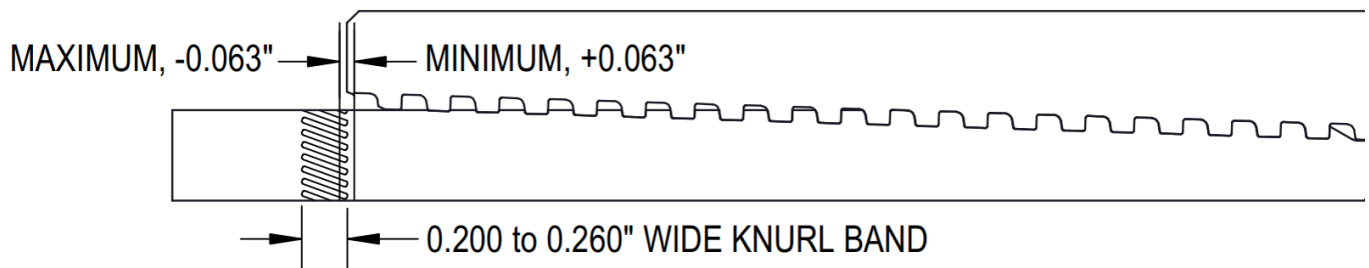

Figure 9: Knurl Band Make-Up Tolerance Criteria for Hercules® SL
- 2.7 When applying thread compound, ensure the mill end pin is made up to the center of the coupling to prevent a low or high shoulder torque. This may be done by verifying the knurl or triangle stamp box face position see Figure 9 and 12.
4.20 Verification of proper Hercules® SL connection make-up can be made by checking that the box face falls within ± 0.063 " of the knurl marking base on the pin/pipe body (Figures 9 & 10), or that the base of the triangle is aligned within ± 0.063 " of the box face (Figure 12).